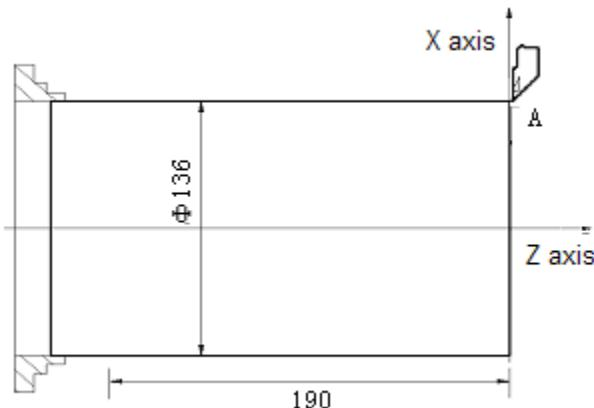

Fig.10-8
(6) Move the tool into the safe position, and execute the 2nd tool by pressing the tool change key in Manual mode;
(7) Start the spindle and move the tool into the tool setting position, which is shown as Fig. 10-8, point A: